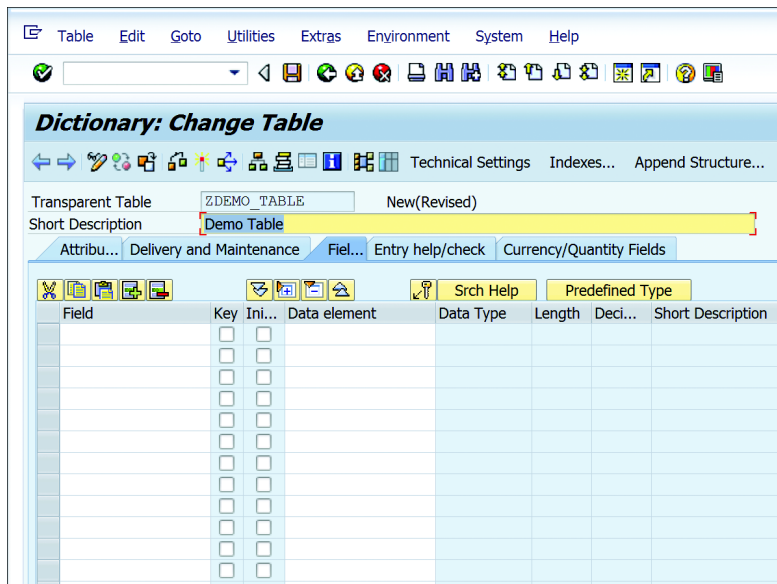

Figure 10.5 Fields Tab
4. Once the settings are maintained in the `DELIVERY AND MAINTENANCE` tab, click the `FIELDS` tab. This tab allows you to maintain the fields for the database table (see Figure 10.5). The `FIELDS` tab presents a table control to maintain various attributes for the field.